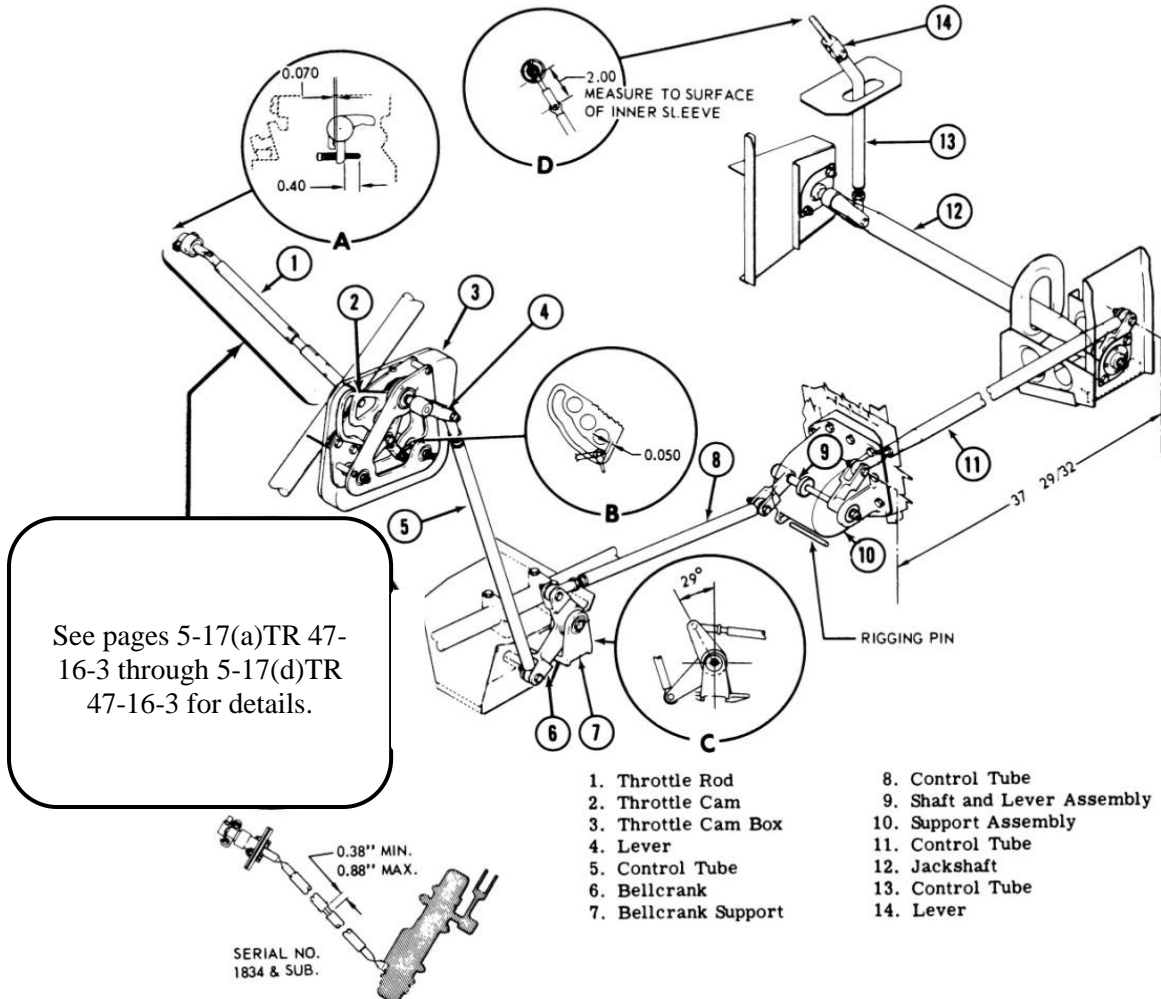

Figure 5-11. Throttle Rigging
d. Check open position of throttle to be not more than 0.070 inch off open stop and not preloaded. Adjust link (item 6, figure 5-12) from its initial dimension of 2.10 inches as necessary until throttle just touches idle stop and is from 0.070 off open stop to just touching open stop. It may be necessary to reindex throttle rod (1, figure 5-11) on throttle serrations.
e. Secure throttle rod (1) to throttle arm with two screws in serrated adapter. Safety wire heads of screws.
f. Disconnect control tube (13) from lever (14).
g. Adjust control tube (11) to 37 29/32 inches.
h. Remove bolt through control tube (8) and lever (9) and install a rigging pin through lever, rod end and support.
i. Close throttle control and lock collective in low pitch. Adjust lever (14) (View D) to 2.0 inches.
j. Adjust control tube (13) to fit between jackshaft lever (12) and lever (14) and install.
k. Adjust control tube (8) to position bellcrank (6) at 29 degrees from vertical. (View C.)
l. With throttle closed, adjust and install control tube (5), maintaining a minimum clearance of 0.050 inch (View B).